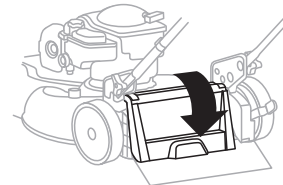

Fig. 11
2. Lower the rear discharge cover. The mower is now ready for mulching. (Fig.11)
1. Lift the tab on the cover and remove the air cleaner cover (C, Fig 11).
2. Remove the foam element (B).